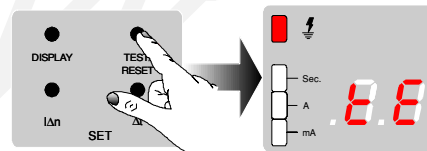

Fig. 2
- The unit can be placed into a fault condition by pressing the "Test/Reset" button on the front of the unit (or by pressing the remote "Test" button - if fitted). If the unit is already in a "no fault" condition, i.e., not tripped, the first press will trip the unit. The output relays operate accordingly. The display shows the characters as in Fig.2